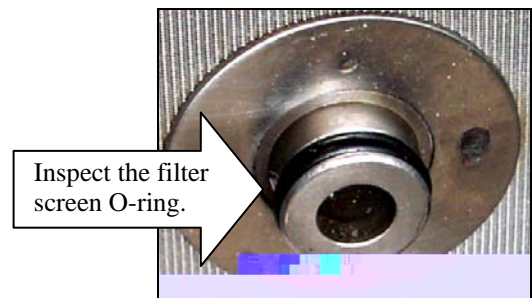

Figure 6
2. Inspect the fitting on the bottom of the Magnasol filter assembly to ensure that the O-ring is present and in good condition. (See Figure 6)